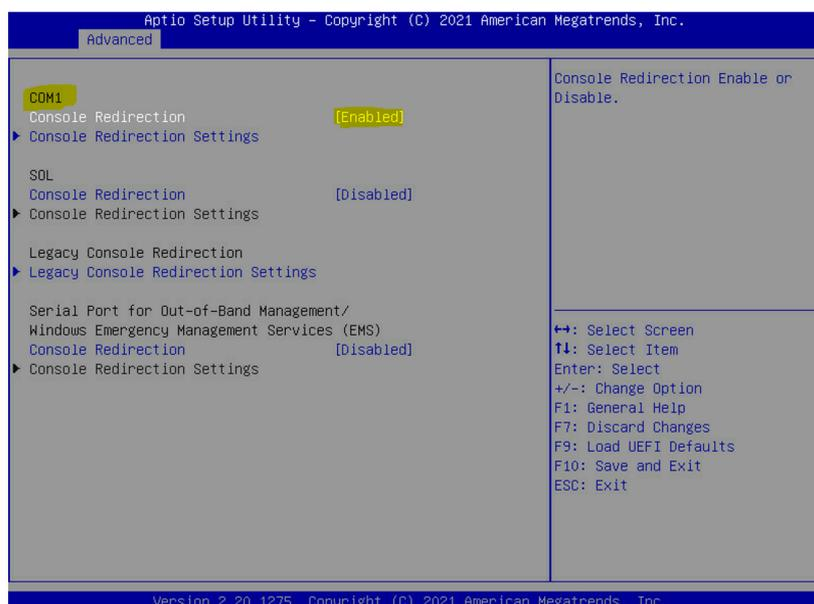

Figure 26 : Enabling Serial Console Redirection
**Advanced -> Serial Port Console Redirection -> COM1: Console Redirection -> Enabled** (Figure 26)